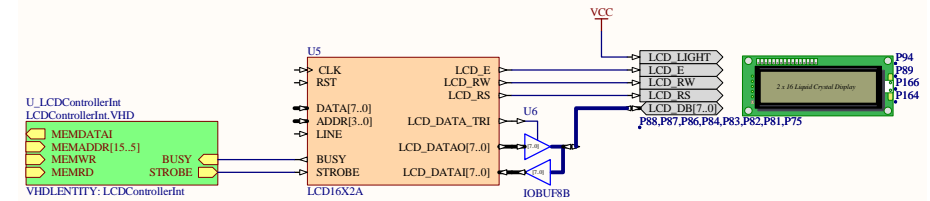
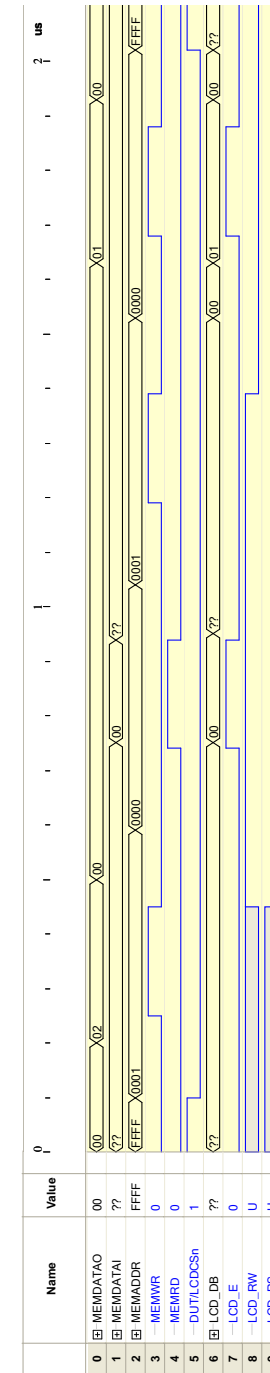

Figure 1: Interface using the LCD controller
Figure 6: Simulation of the LCD interface without using the LCD controller
The way in which the controller is connected to the LCD display is shown in Figure 6 of the *LCD16X2 LCD Controller* documentation. However, to interface the controller to the CPU also requires some extra glue logic. A block diagram showing the glue logic to the controller and the LCD display is shown in Figure 1. Note that the LCD controller re-
The timing diagram is not shown here but it should be done first to ensure that the requirements of the interface are understood and to make it easier to design the interface. Refer to the timing diagram for the simulation shown in Figure 6.
- Simulate the design. This includes the operation of the latch and the signals going to the LCD display. The VHDL code for the stimulus part of the test bench is on Page 10. The simulation results is shown in Figure 6. The simulation shows a practical situation. It simulates part of the test code where on of the LCD registers are set. The busy flag is checked first before writing to the register.